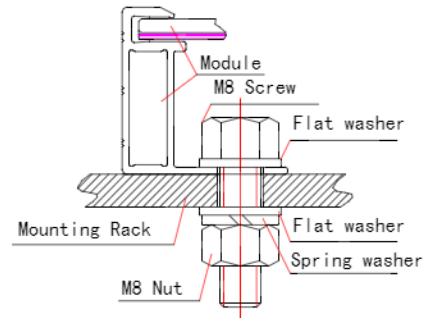

Fig. 1. SPV module installed with Bolt fitting method
- Secure the module in each fixing location with an M8mm bolt and a flat washer, spring washer and nut as shown in Figure 1 and tighten to a torque of 16 N.m.